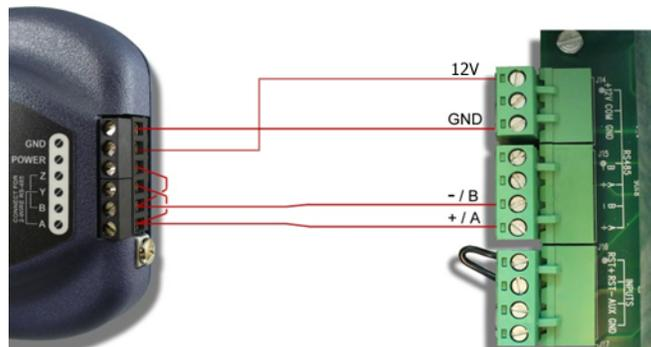

Figure 1: Gateway and Chillgard RT Connections
The Chillgard RT can be used to power the gateway from its 12V supply by connecting J14 terminals 1 (+12V) and 3 (GND) to the gateway's terminal block at terminals TB:5 (POWER) and TB:6 (GND) as shown in Figure 1. For RS-485 communications, connect J15 terminals A (+) and B (-) on the Chillgard RT to the gateway's terminal block at terminals TB:1 (A) and TB:2 (B) as shown in Figure 1. Additionally, a jumper wire must be placed on the gateway's terminal block between terminals TB:1 (A) and TB:3 (Y). Another jumper wire must be placed between terminals TB:2 (B) and TB:4 (Z). as shown in Figure 1.
- a. Confirm the wiring matches the connections shown in Figure 1.